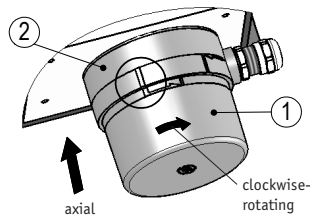

Fig. 7: Closing
For closing (fig.7):
- Place the hood (1) onto the gear's housing (2) so that the two broad markings are on one line.
- Fix the gear's housing (2) and turn the hood (1) clockwise until the bayonet fastening engages and the two thin markings are on one line (fig. 7).